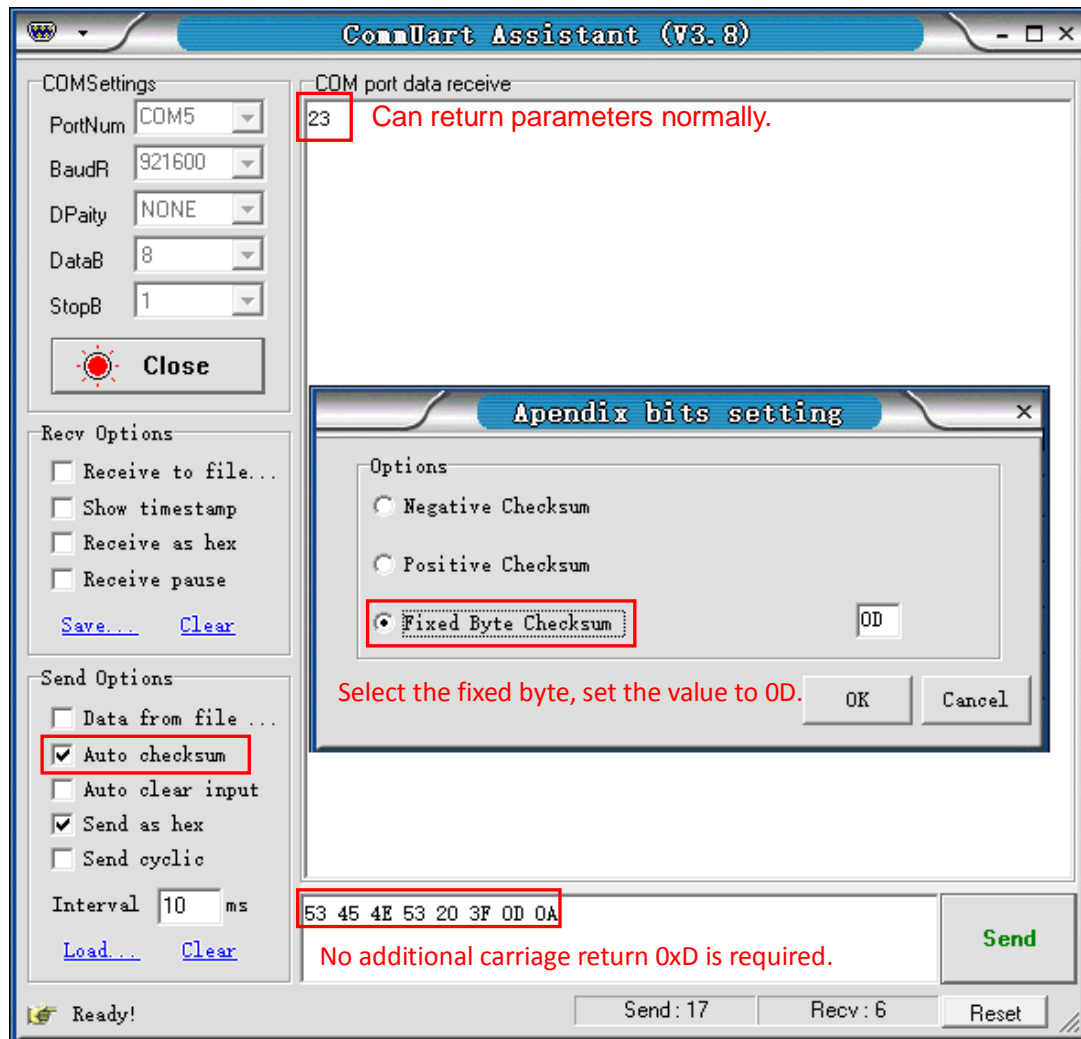

Fig.111 Setting the checksum
2) The serial assistant can be configured to automatically add carriage return 0X0D. You just need to click **Auto checksum:** and choose **Fixed Byte Checksum** . Finally, set the additional digit to <0D> as Fig.111.